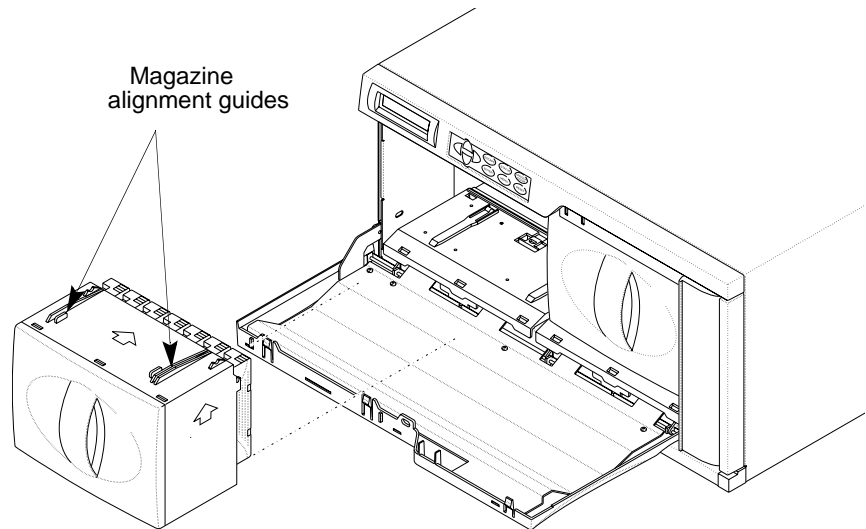

Figure 4-3 Installing a magazine in the library
3. Insert each cartridge magazine into the library so that the alignment guides are up (as shown in Figure 4-3) and the alignment grooves are down.